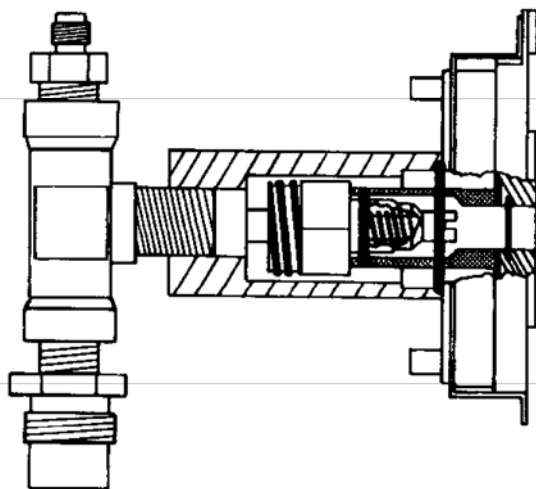

Figure 17
4. A seal then is made between the front body cylinder and check o-ring. Gas flow is stopped here until appropriate adapter is inserted. See Figure 17.